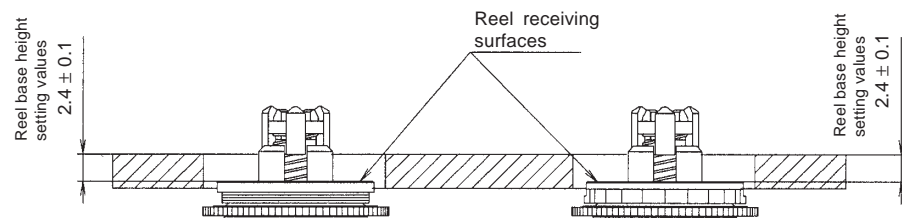

Fig. 3
(4) Confirm that the heights of the S reel base reel receiving surface and the Tu reel base reel receiving surface below the master plane top surface are within the set values, using, for example, a slide calliper (Fig. 3).